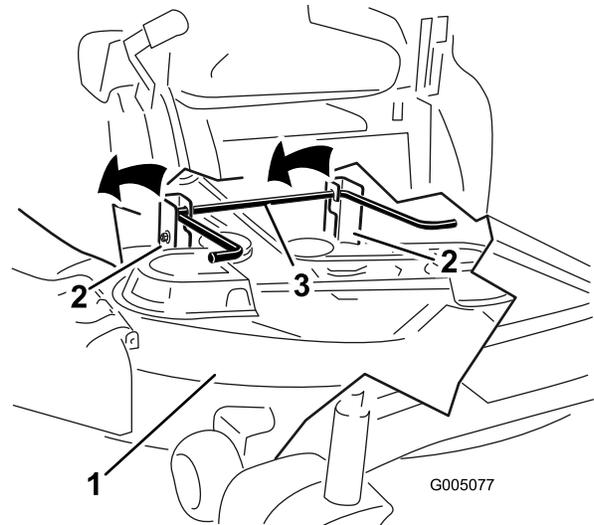

Figure 52
5. Lift the mower deck and hanger brackets clear of the rear lift rod and lower the mower carefully to the ground (Figure 52).
5. Lift the rear of the mower deck and guide the hanger brackets over the rear lift rod (Figure 52).